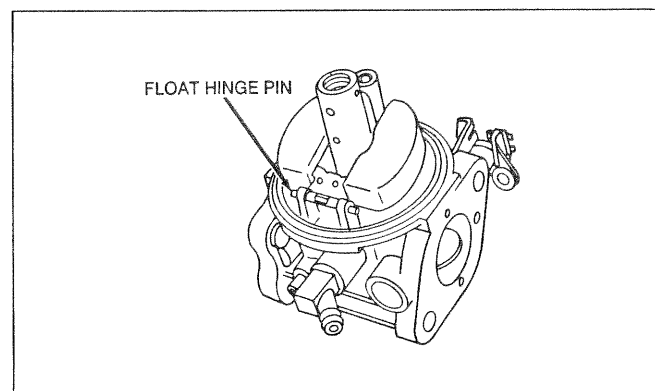

Figure 135. Float Hinge Pin Installation
- Install float hinge pin (Figure 135).